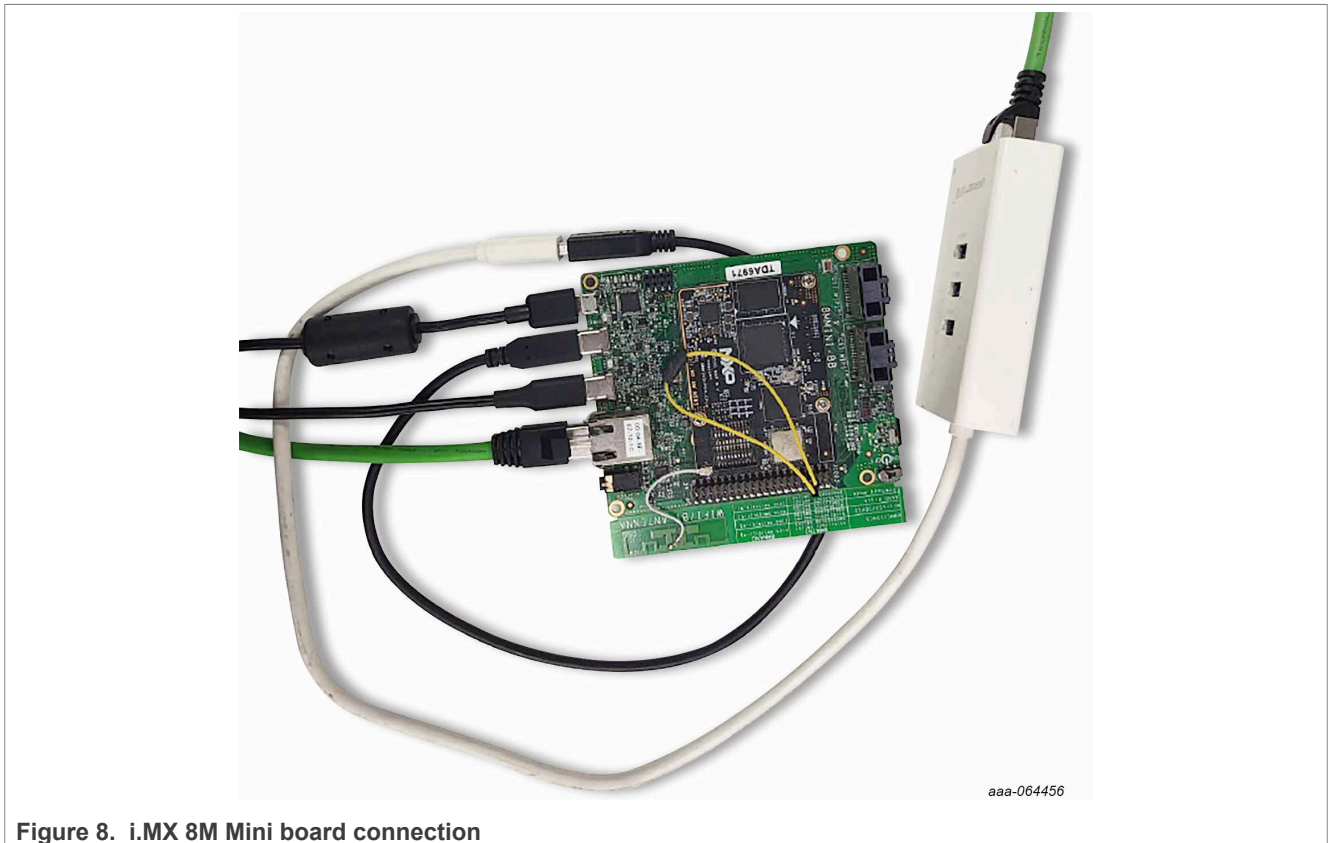

Figure 8. i.MX 8M Mini board connection
- Figure 8 describes the i.MX 8M Mini board connection.